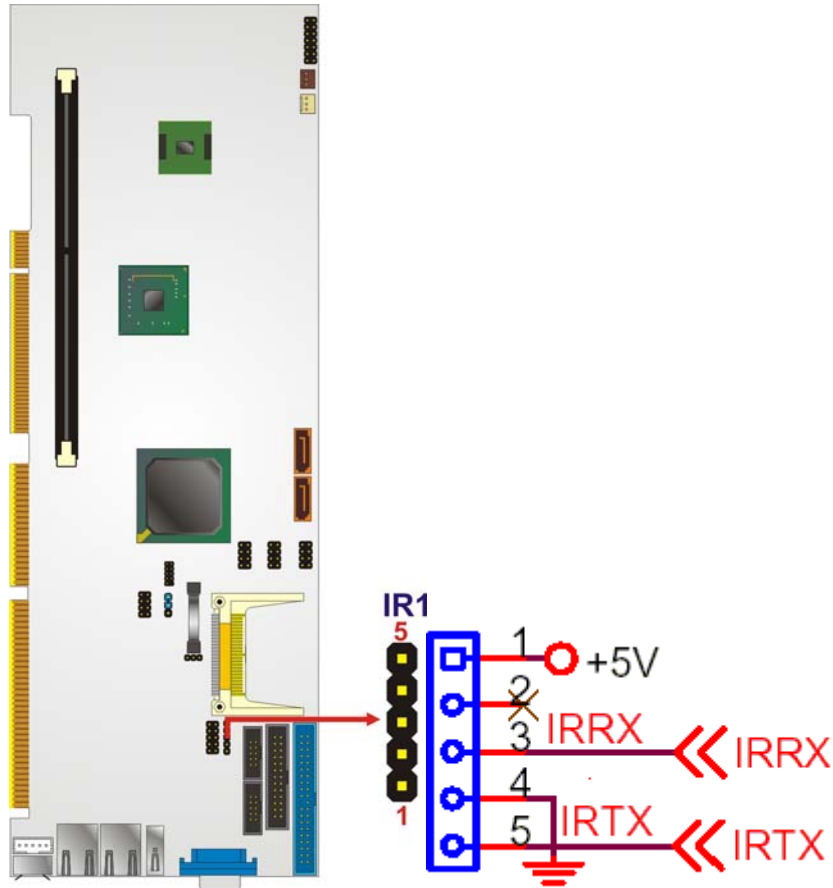

Figure 4-9: Infrared Connector Pinout Locations
- CN Location:** See Figure 4-9